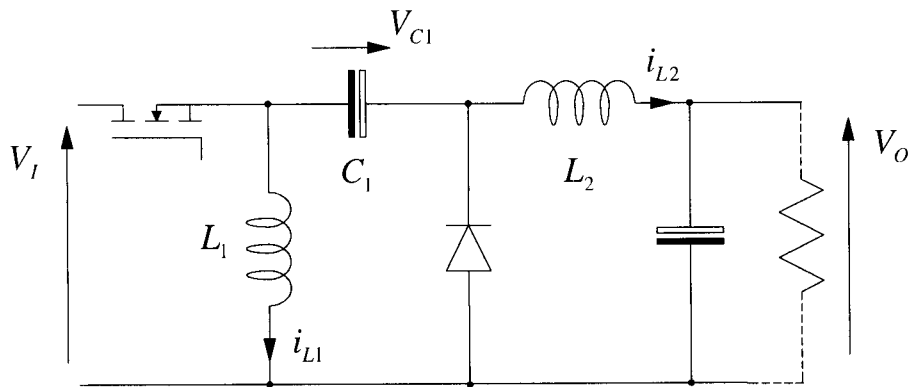

Figure 1, The Zeta switch-mode power supply
- (b) Figure 1 shows a variation on the Čuk switch-mode power supply known as the Zeta switch-mode power supply.